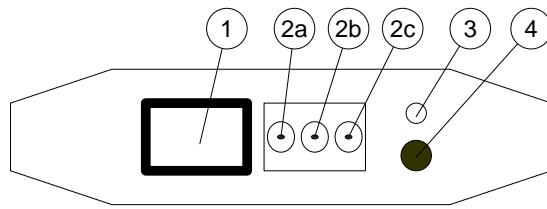

Figure 1-2 Network side connectors and LEDs
After installing the drivers as described in the chapter below, connect the USB device to the LonWorks network using either the RJ45 jack or the 3 pin screw plug connector which can be used alternatively (cf. Figure 1-2, (1), (2)).